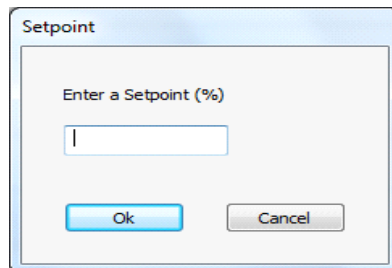

Figure 32 Change Setpoint
- Change Setpoint: Select this and a dialog appears to enter a new percentage (Figure 32) for the setpoint while connected and in Manual mode or Setup mode.